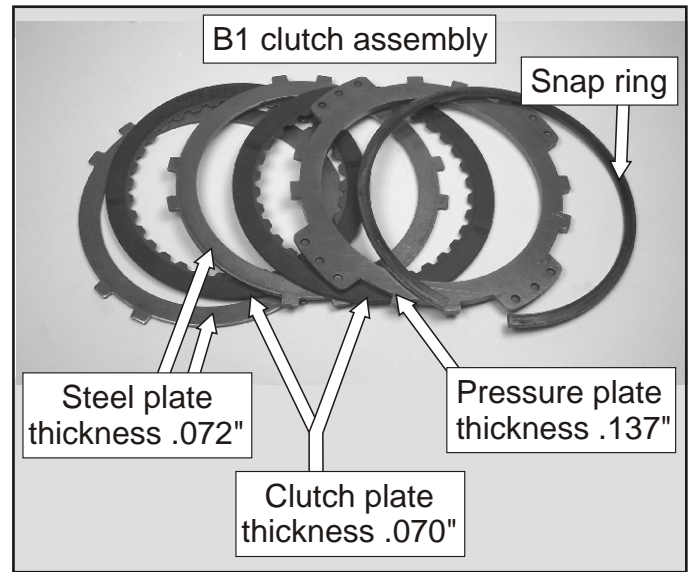
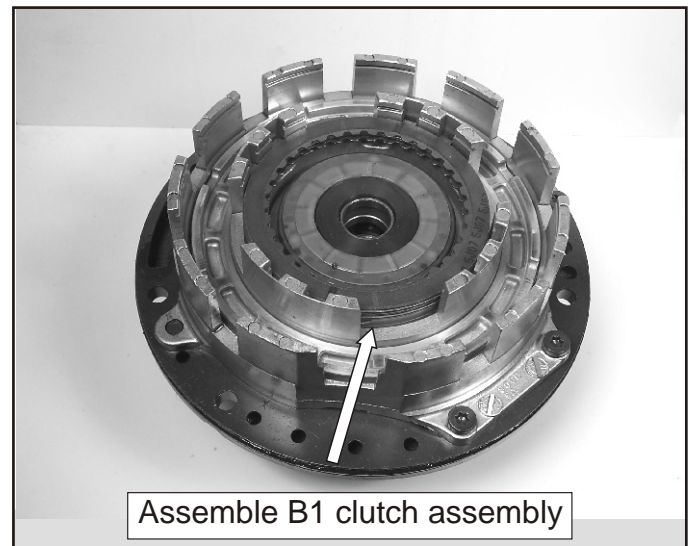

Figure 120
Figure 121
68. Assemble the two B1 steel plates and two B1 clutch plates into the housing as shown in Figure 121. Refer to the exploded view in Figure 120 for assembly purposes.